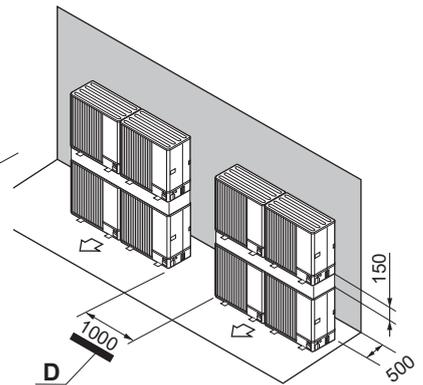

Fig. 1-18
- (7) Stacked unit arrangement (Fig. 1-18)
- D: Space (Fig. 1-18)